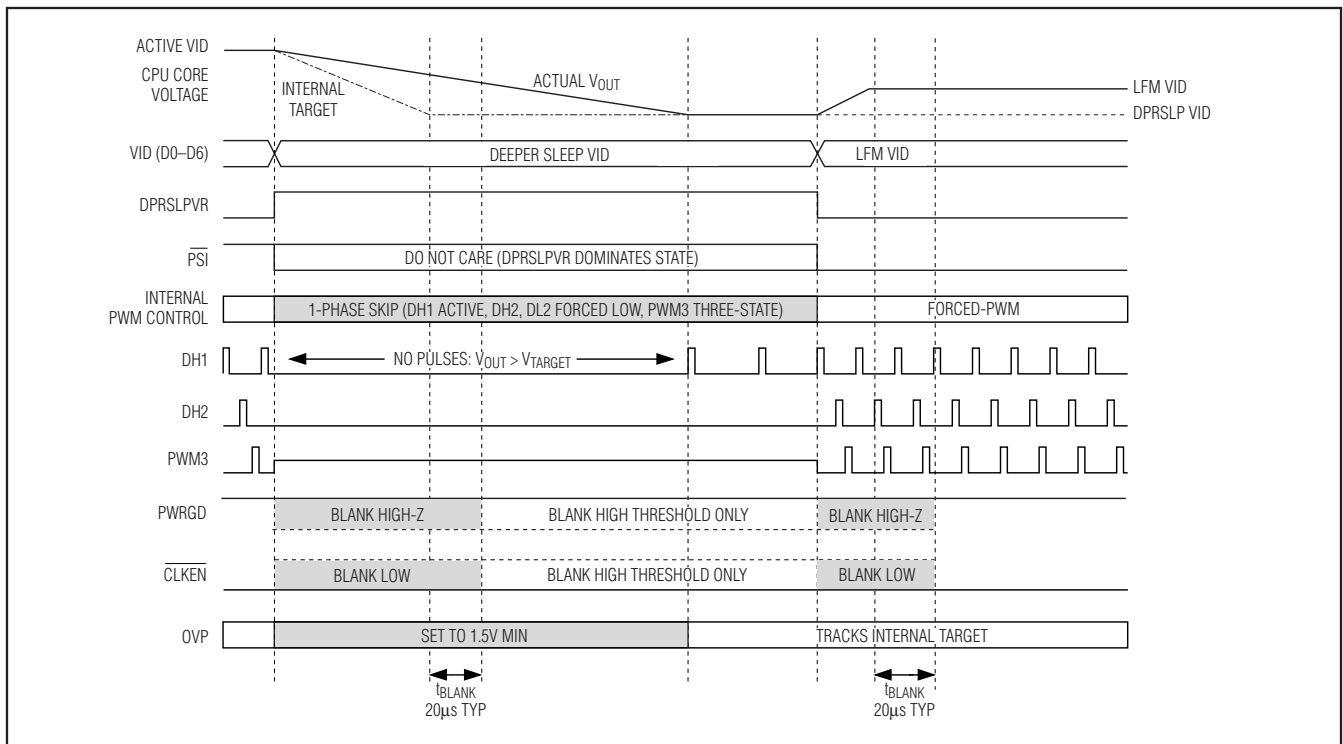

Figure 6. Standard C4 Transition
- **Standard C4 Deeper Sleep Exit:** When exiting deeper sleep (DPRSLPVR pulled low) while the output voltage is regulating to the deeper sleep voltage, the MAX17030/MAX17036 immediately activate all enabled phases and ramp the output voltage to the LFM DAC code provided by the processor at the slew rate set by R_{TIME}. The controller blanks PWRGD and CLKEN (forced high impedance) until 20 μ s after the transition is completed. See Figure 6.